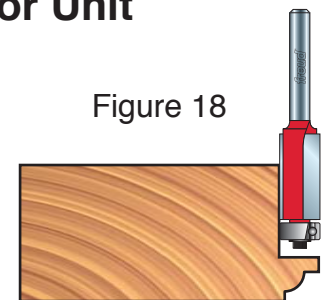

Figure 18
a) As shown in Figure 18, use a sharp, high quality flush trim bit to remove the portion of the door profile where the glass will be inserted. Remove the profile on one side of the door only! Glass is normally installed from the inside of the door, so be sure to remove the correct portion of the profile. If you are building 1-3/4” thick doors, Freud’s 42-202 or 42-204 Downshear Flush Trim bits are great choices. For 1-3/8” thick doors, Freud’s new 42-310 Flush Trim Bit with a unique flush bearing design is perfect for the task.